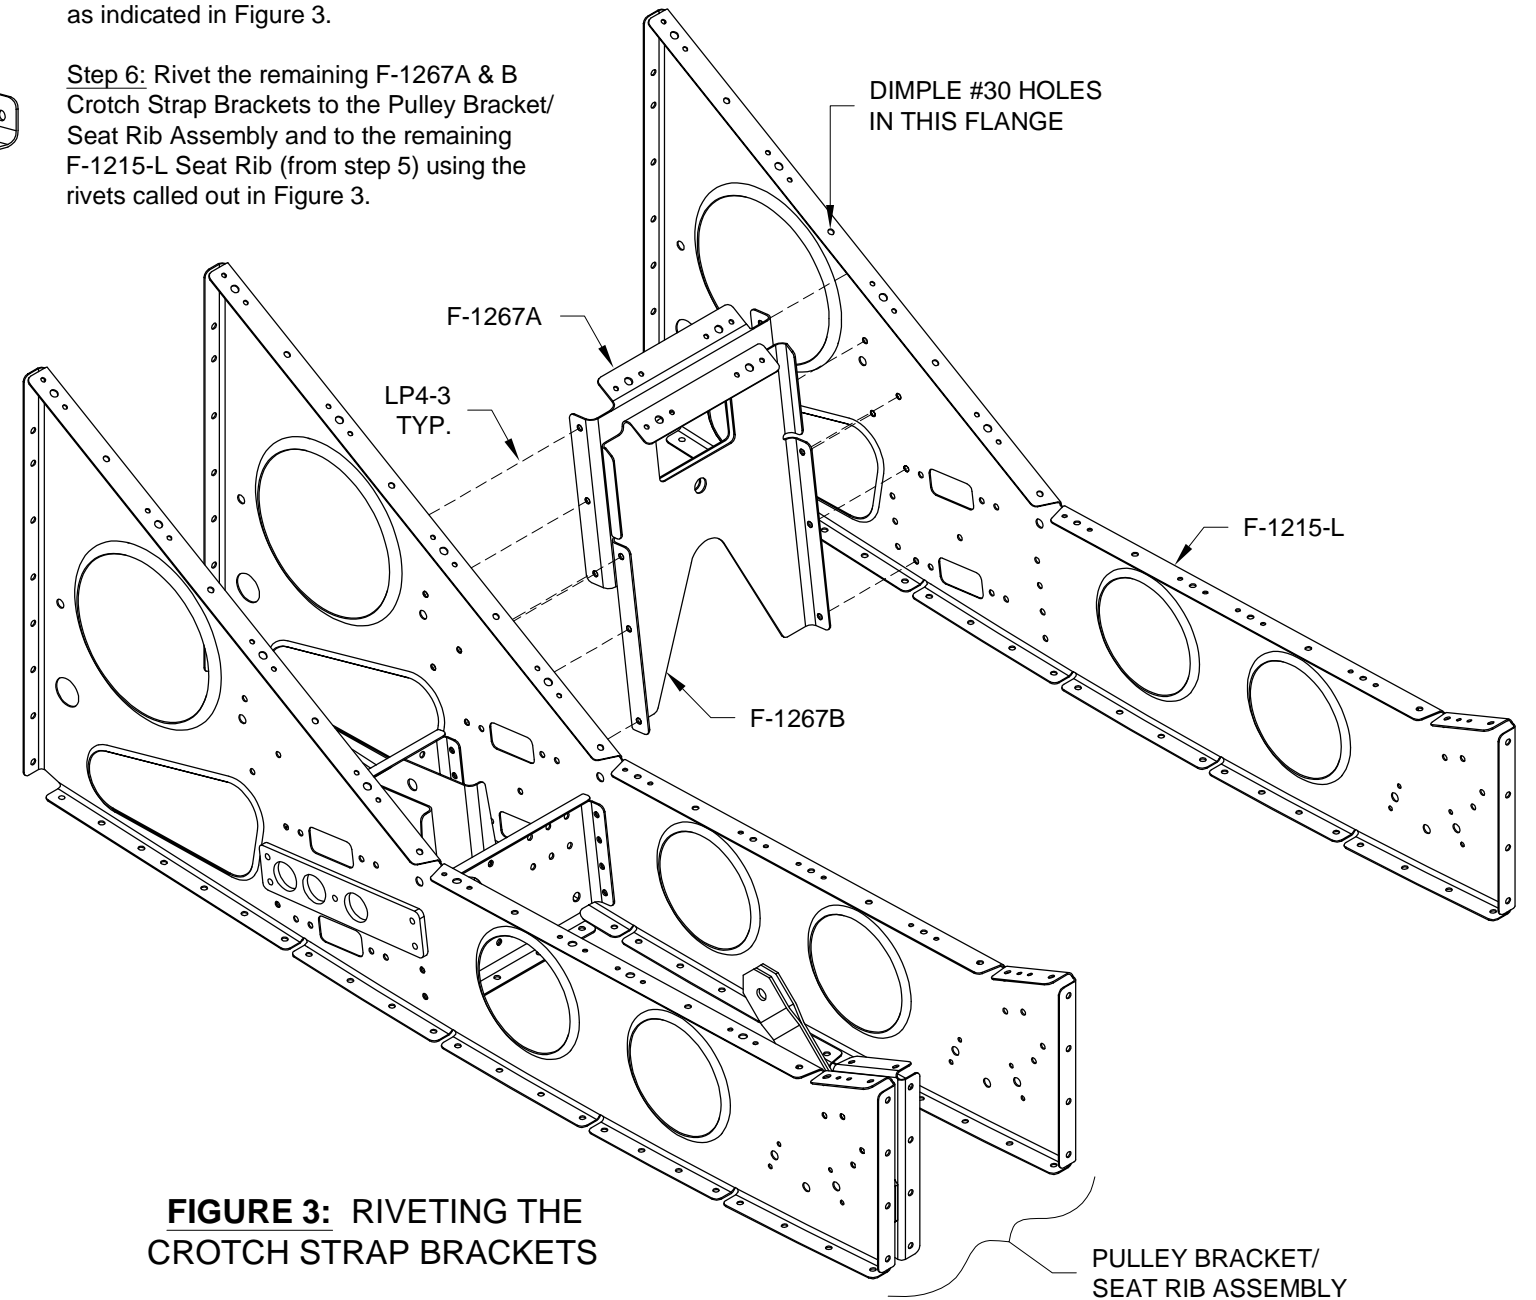

FIGURE 3: RIVETING THE CROTCH STRAP BRACKETS
Step 5: Dimple the four #30 holes in the sloped flange of the one remaining F-1215-L Seat Rib as indicated in Figure 3.
Step 6: Rivet the remaining F-1267A & B Crotch Strap Brackets to the Pulley Bracket/ Seat Rib Assembly and to the remaining F-1215-L Seat Rib (from step 5) using the rivets called out in Figure 3.